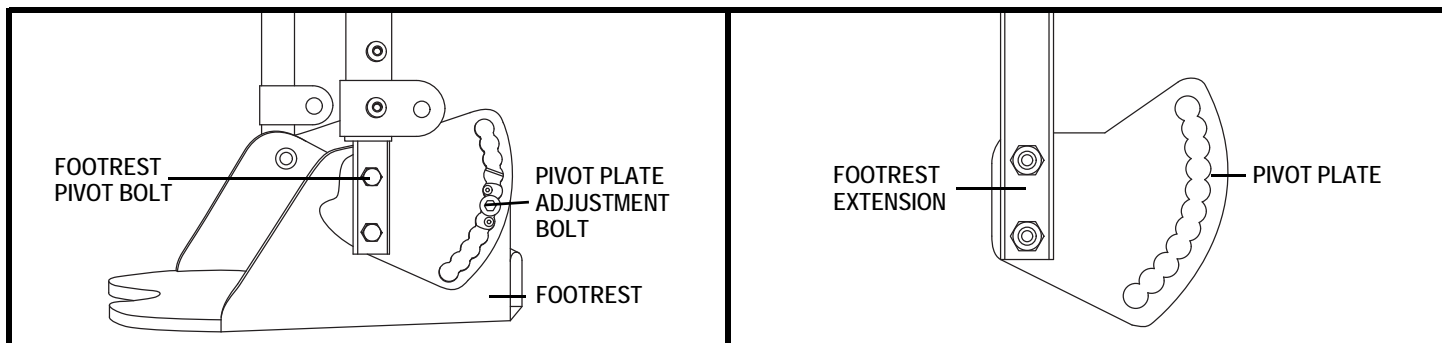

Figure 56. Footrest Assembly (Standard Leg Drop)
1. Remove pivot plate adjustment bolt with a 3/16-in. hex wrench. Use a 7/16-in. nut driver and 5/32-in. hex wrench to remove footrest pivot bolt. **See figure 56.**
2. Using a 5/32-in. hex wrench, remove pivot plates from footrest extensions. **See figure 56.**